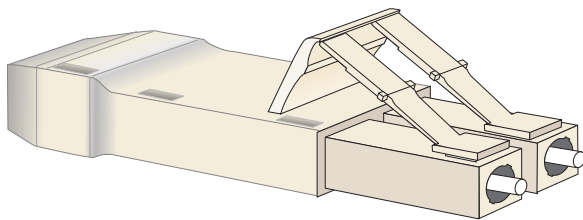

Figure 1-10: SFF Fiber-Optic Loopback Plug
- **Fiber-optic loopback plug**-An SFF multimode (shortwave laser) or singlemode (longwave laser) loopback plug is required to perform port loopback diagnostic tests. Four multimode loopback plugs are shipped with the Director. Both plug types are shipped if shortwave laser and longwave laser transceivers are installed. The plug is shown in Figure 1-10.